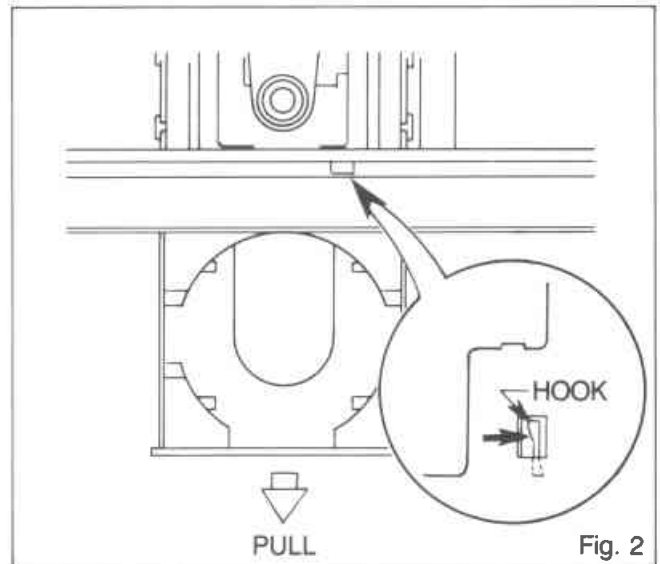

Fig. 2
4. Now remove the table load from the cabinet while pressing the hook in the direction of the arrow as shown Fig. 2